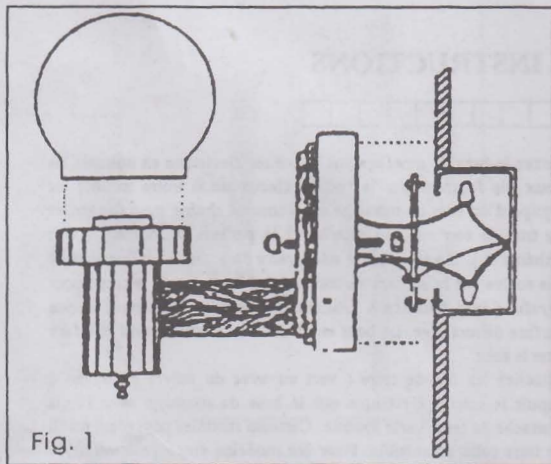
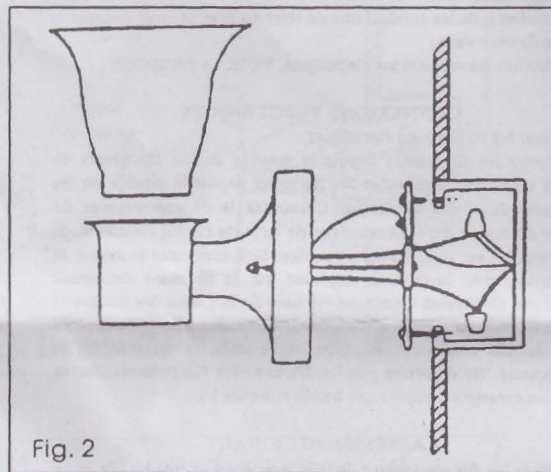
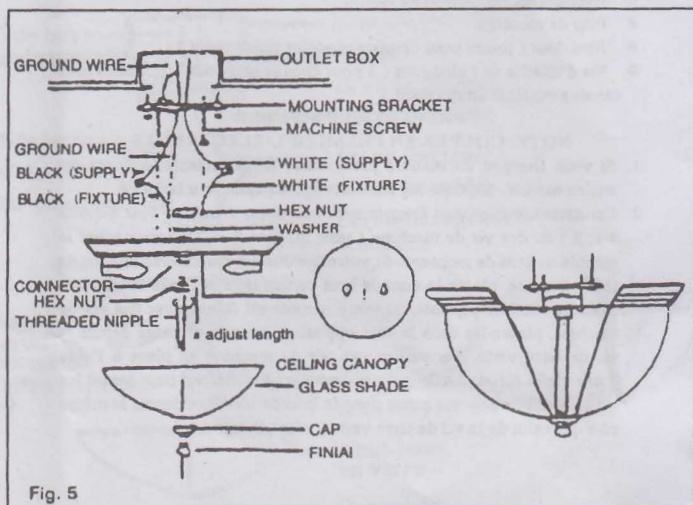

Fig. 1
Fig. 2
Fig. 5
2. Some fixtures are provided with a threaded nipple (see Fig. 1 and Fig. 5) or machine screws (see Fig. 2 and 2A) for attaching the fixture to the mounting bracket. If your fixture is supplied with a threaded nipple screw the nipple 3 complete turns into the mounting bracket and lock into place with a hexagon lock nut. If your fixture is supplied with machine screw, thread the machine